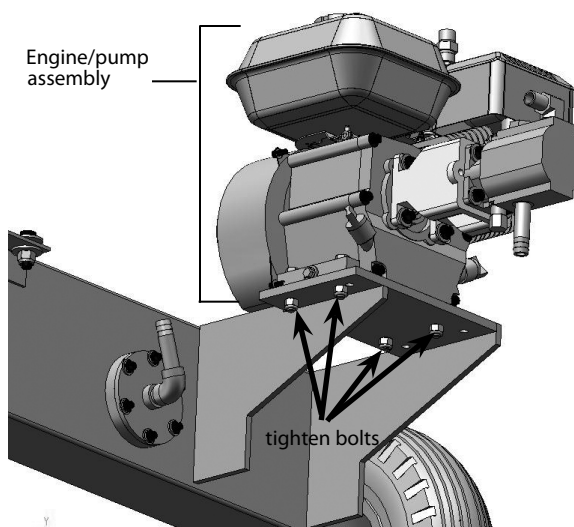

Figure 1
4. Attach engine/pump assembly to the engine mount on the tank using the four bolts, four nuts, and eight washers found in parts bag labeled #3. Tighten securely with 13mm wrenches. **SEE FIGURE 1.**